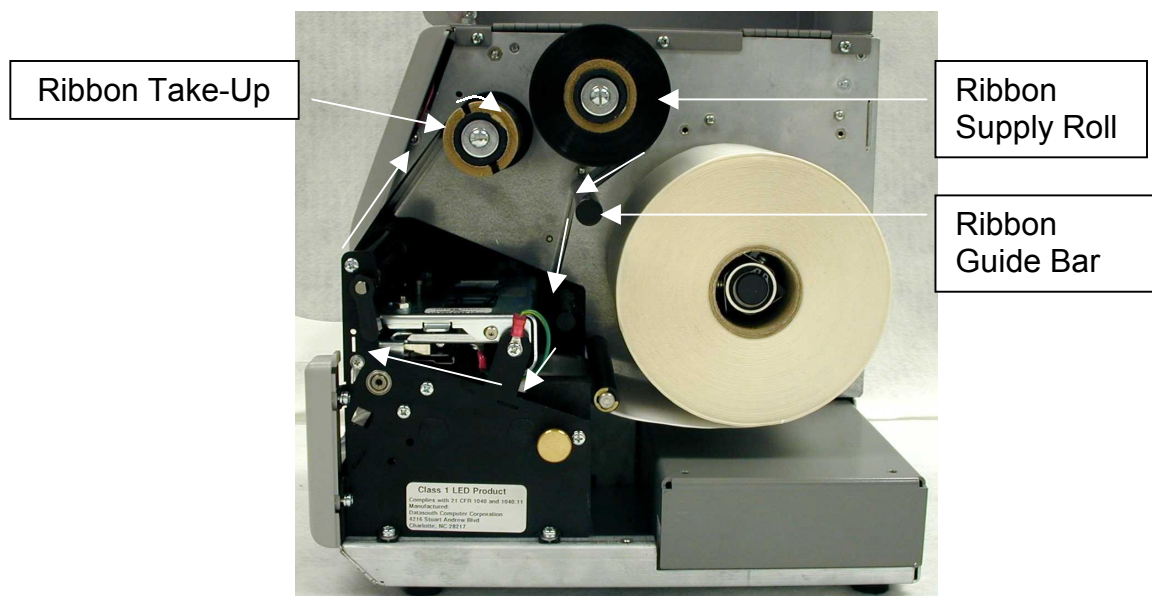

Figure 4 – Thermal Transfer Ribbon Feed Path
Thermal transfer applications require a ribbon. Direct Thermal users go to the next step. Figure 4 shows the feed path for the ribbon.
1. Place the ribbon on the Ribbon Supply shaft so that the ribbon unwinds from the bottom, as shown in Figure 4.
4. Thread the ribbon down from the Ribbon Supply shaft, beneath the Printhead Bracket, and onto the empty core on the Ribbon Take-Up as shown in Figure 4.